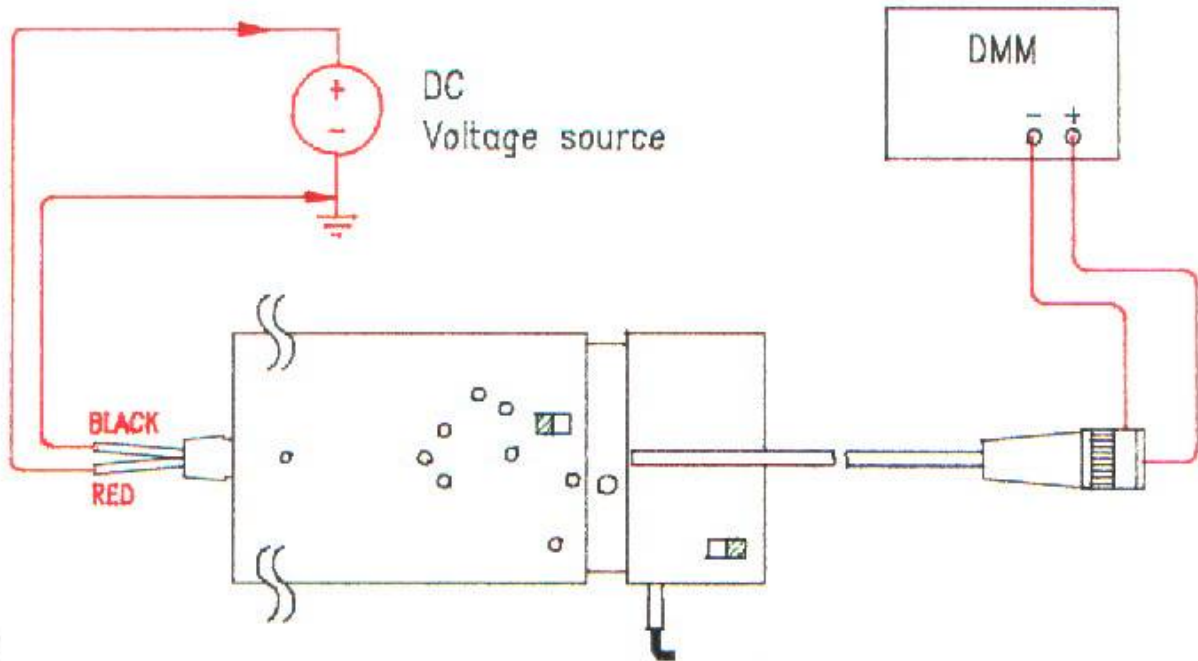

Fig. 12
- Referring to Fig. 12, connect output BNC to a DMM.